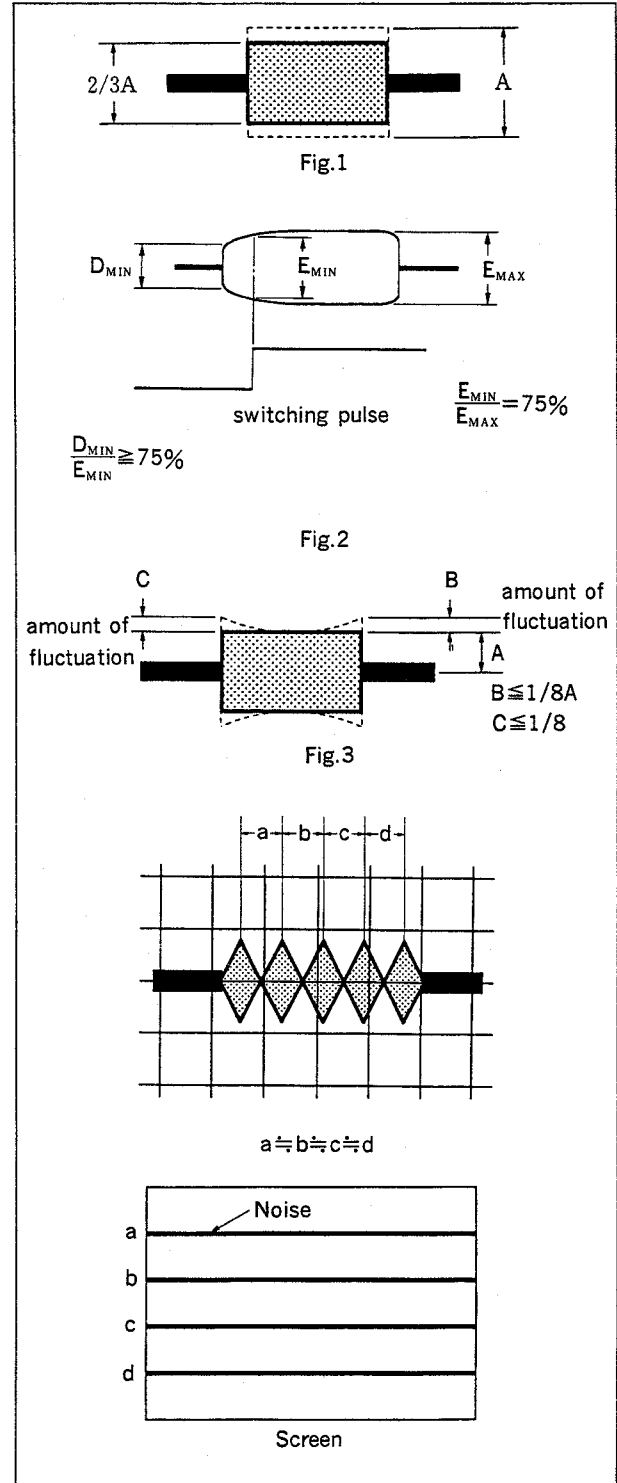

Fig. 6-4-1 Tracking check
2. Set S3 switch on SST-2AP board to "PATH", and rotate RV701 counterclockwise to reduce RF wave shape amplitude to 2/3. (See Fig.6-4-1 (1).)
3. 1) Confirm that the minimum amplitude ( $E_{MIN}$ ) of RF wave shape is more than 75% of the maximum amplitude ( $E_{MAX}$ ) (See Fig.6-4-1 (2).)
4. RF envelope fluctuation at both entrance and exit sides is less than the specified value, as shown in Fig.6-4-1 (3).
5. Put the unit into reverse mode. Check that noise pitch has equal interval. (Fig.6-4-1 (3)). If it does not have equal interval, continue adjustment as follows.